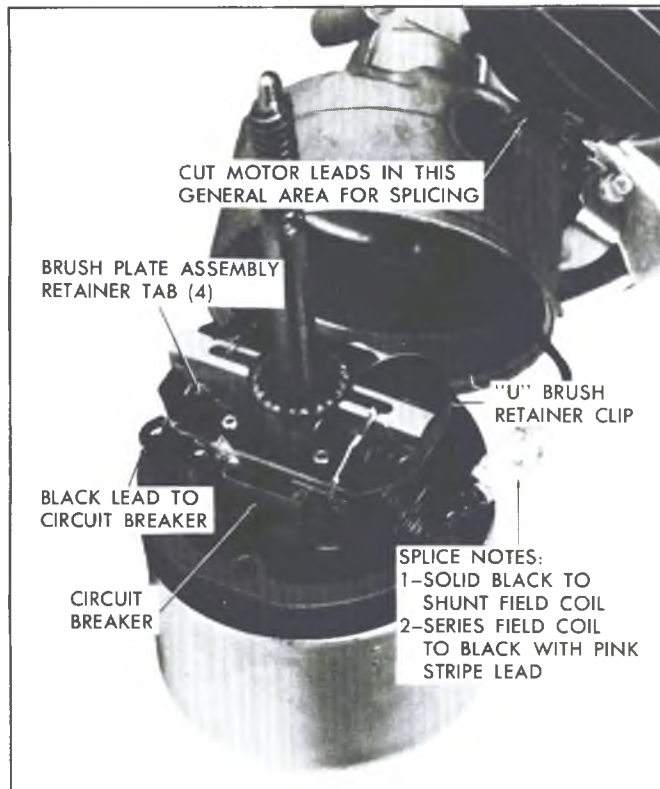
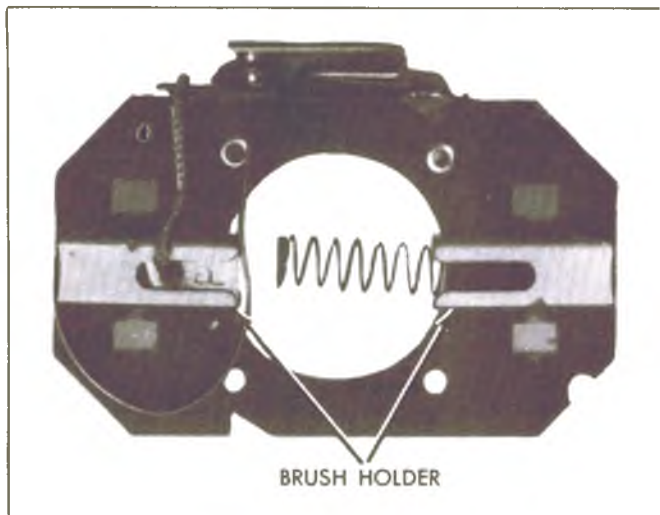

Fig. 30-Circuit Breaker
Fig. 33-Brush Plate Assembly
4. Unsolder the black cotton-covered lead from circuit breaker (fig. 30).
5. Straighten out the four tabs that secure the brush plate to the field coil retainers (fig. 30).
6. Install "U" shaped brush retainer clip over brush holder that has brush lead attached to circuit breaker (fig. 30).
stripe leads in a location convenient for splicing—preferably near the wiper terminal board. Refer to Figure 30 for splicing location.
5. Position the partially assembled brush plate (fig. 33) over the armature shaft far enough to allow assembly of the remaining brush in its brush holder, then position the brush plate on the mounting tabs in the position shown in Figure 30.
NOTE: Circuit breaker should be opposite field cross over splice connections (Figure 30).
7. Remove brush retainer clips and resolder black cotton covered lead to circuit breaker (fig. 30).